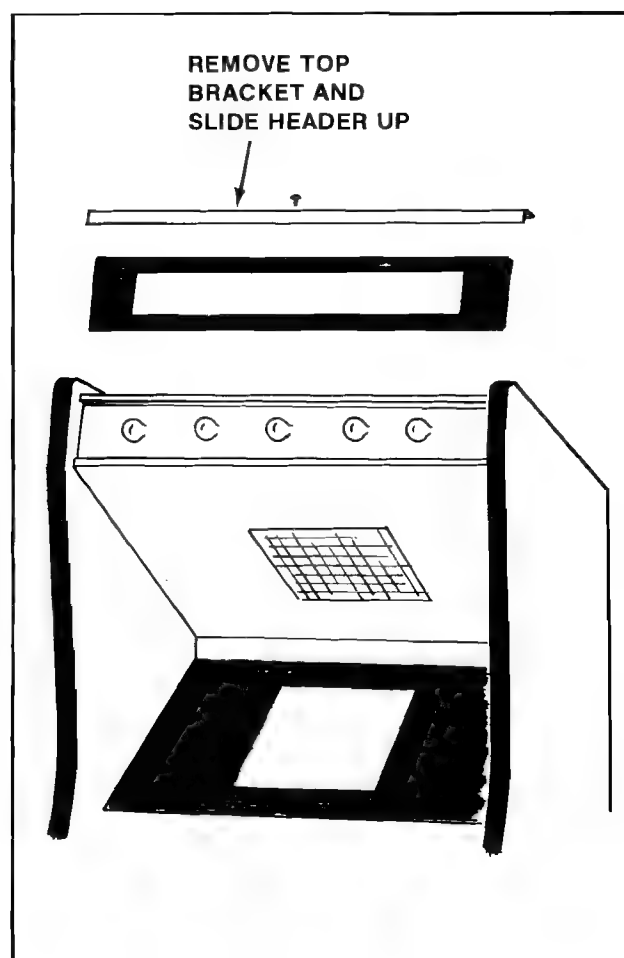

Figure 3-16 Opening the Attraction Panel — Mini
2. MINI MODEL. See Figure 3-16.
- ☐ Remove the screws which secure the top bracket in place. (They are on its top side.) See Figure 3-16.